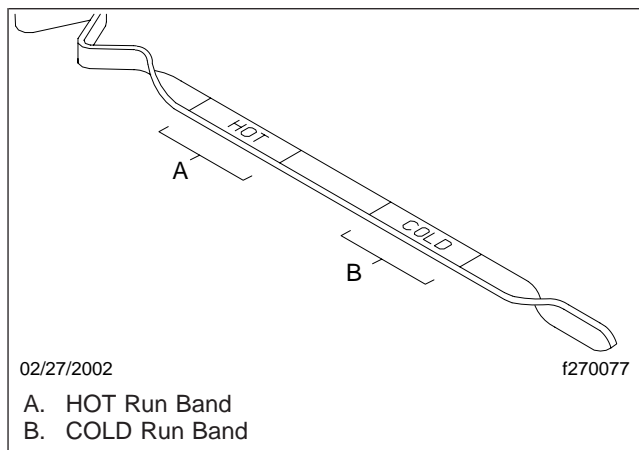

Fig. 8.5, Automatic Transmission Dipstick
- Operate the transmission in a Drive (D) range until normal operating temperature, 160 to 200°F (71 to 93°C), is reached.
- Park the vehicle. Shift to Neutral (N) and apply the parking brake. Let the engine run at idle.
- Wipe the dipstick clean and check the fluid level. A safe operating level is any level within the HOT run (upper) band on the dipstick. See Fig. 8.5.
- With the engine running, wipe the dipstick clean and check the fluid level. See **Fig. 8.5**. Any level within the COLD run (lower) band is satisfactory for operating the vehicle. If the level is not within the COLD run band, add or drain fluid until it reaches the middle of the COLD run band.